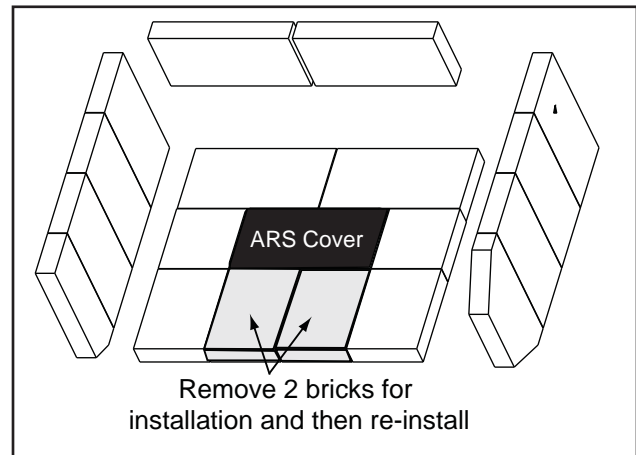

Figure 22.1
1. Remove 2 front bricks as shown in **Figure 22.1**.